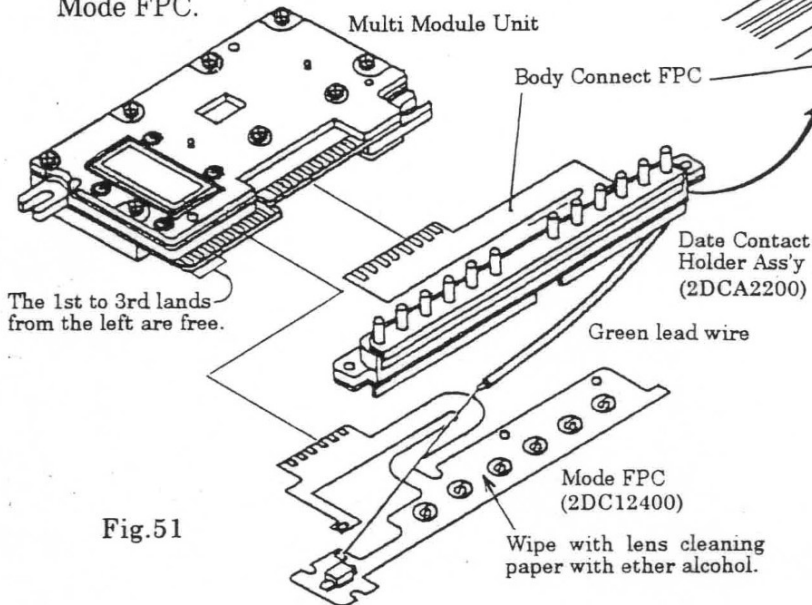

Fig.51
- 1) Set the Mode Button (2DA22110) in the Back Cover Grip (D).
- 2) Wipe the pattern of the Mode FPC with lens cleaning paper with ether alcohol. (See Fig. 51)